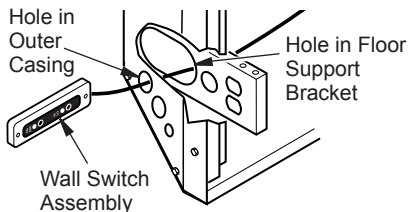

Figure 9 - Routing Wall Switch Assembly Through Fireplace for Relocation
5. Carefully pass wall switch assembly and cord through large elongated hole in rear of either left or right floor support bracket, depending on desired location of switch. Pass wall switch assembly and cord through 1.5" diameter hole in side of fireplace outer casing (see Figure 9).